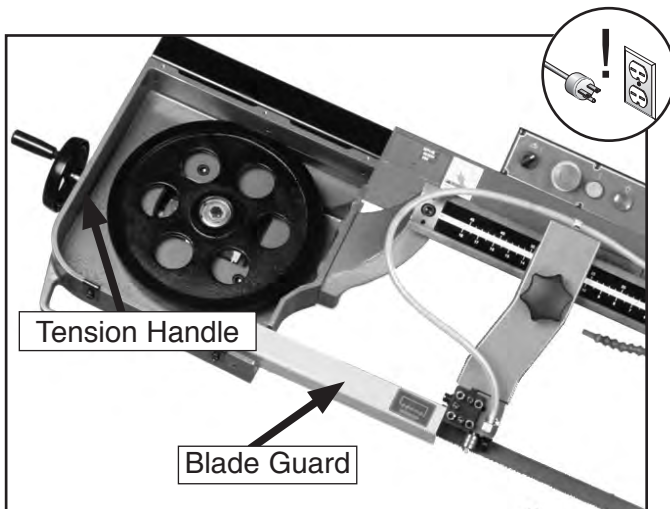

Figure 37. Tension handle and blade.
6. Loosen the blade tension handle in **Figure 37** and slip the old blade off of the wheels then out of the blade guide roller bearings.